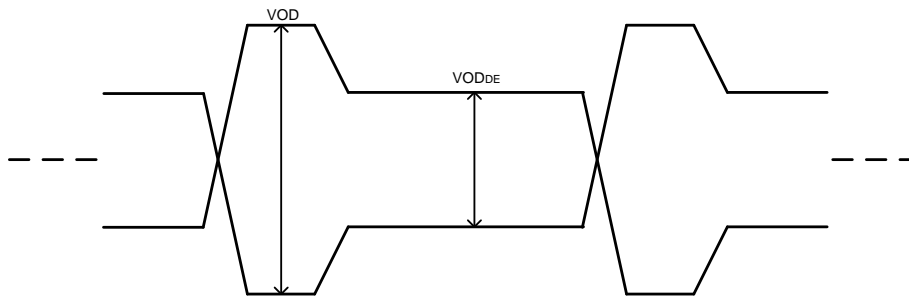

Figure 8. VOD and VODDE Levels
(1) The output drivers are capable of providing higher VOD and DEM levels (max settings are 7). For more VOD and de-emphasis levels, refer to 表 9.
(2) See Figure 8.